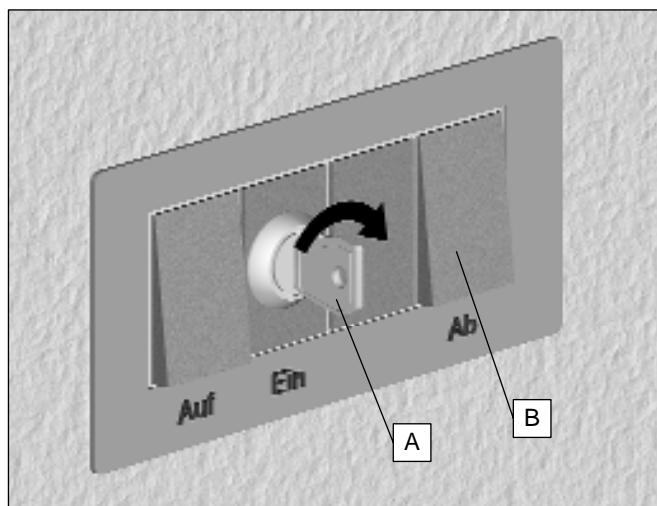

Fig. 6.5: Stationary remote control
- Insert the key (A) into the stationary remote control (fig. 6.5) or into the portable remote control (fig. 6.6).
- Turn the key (A) to the ON position.
- Insert the key into the stationary remote control (fig. 6.5) or into the portable remote control (fig. 6.6).